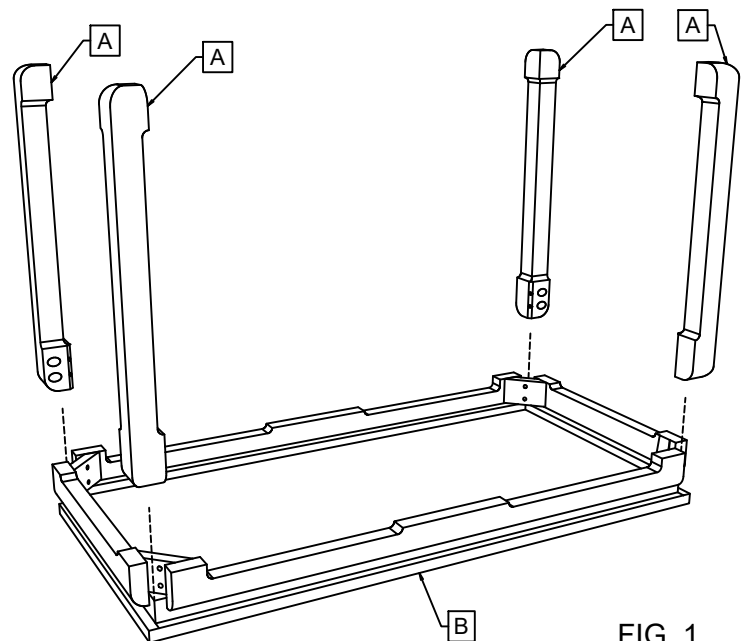

FIG. 1
1. PLACE THE TOP OF THE DESK (B) UPSIDE DOWN OVER A CLEAN SURFACE.
2. PLACE THE LEGS (A) IN THE HOLE OF TE BASE (B) AS SHOWN IN FIG.1.